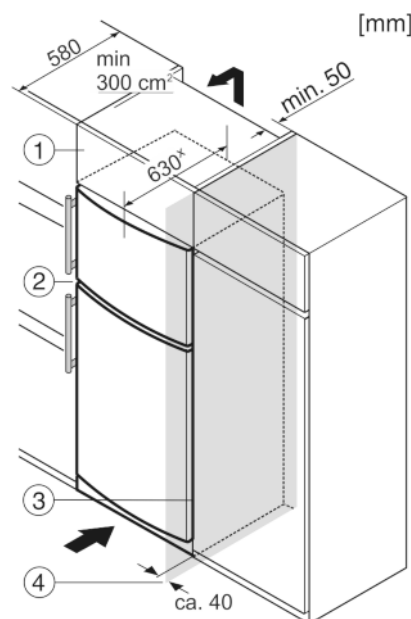

Fig. 10
The appliance can be built into kitchen units. A top cupboard *Fig. 10 (2)* can be added above the appliance in order to bring the appliance *Fig. 10 (1)* up to the height of the fitted kitchen units.
When installing with kitchen units (max. depth 580 mm), the appliance can be positioned directly next to the kitchen cabinet *Fig. 10 (3)*. The appliance will project by 34 mm * at the sides and 50 mm * in the centre of the appliance in relation to the kitchen cabinet front.
If the appliance is installed with the hinges next to a wall *Fig. 10 (4)*, the distance between appliance and wall has to be at least 40 mm. This corresponds to the projection of the handle when the door is open.